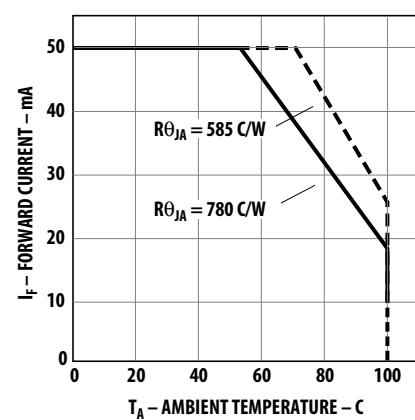

Figure 4. Maximum forward current vs. ambient temperature. Derating based on $T_{JMAX} = 130^\circ\text{C}$.
1. Derate linearly as shown in Figure 4.